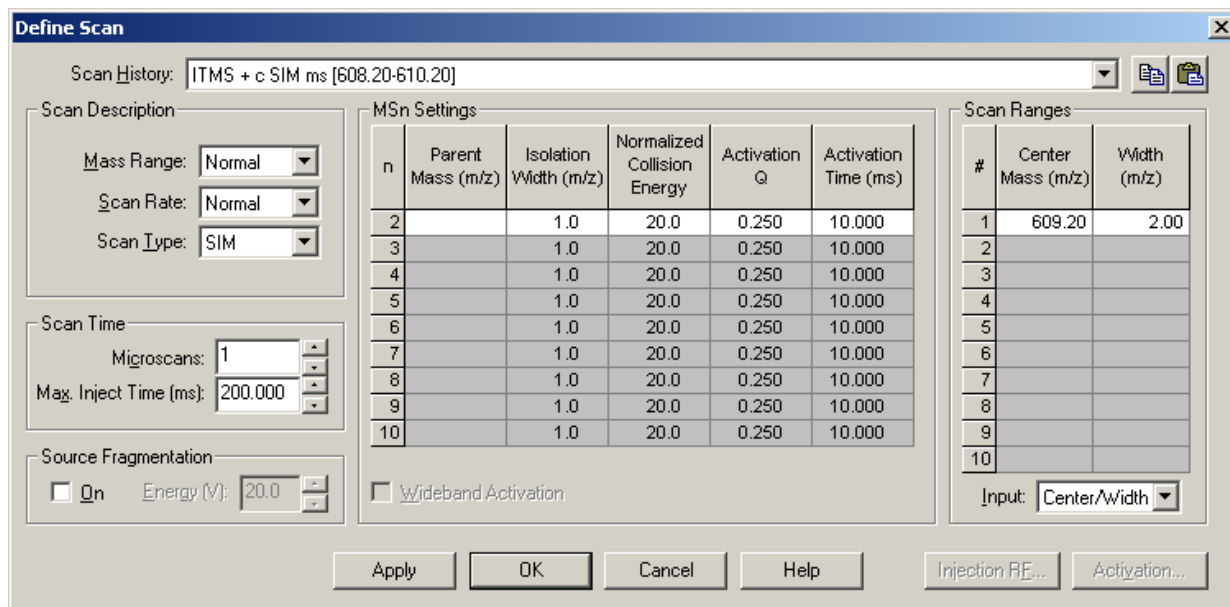

Figure 7-4. Define Scan dialog box, showing typical settings for APCI/MS operation
- a. On the Control/Scan Mode toolbar, click on the Define Scan button to open the Define Scan dialog box. Figure 7-4 (If your dialog box appears different from the one shown in the figure, it is probably because the advanced settings are not displayed. You can turn on the advanced settings as follows: In Tune Plus, choose **ScanMode**, and then click on *Advanced Scan Features* to select the option.)
- k. Ensure that the settings in your Define Scan dialog box are the same as those shown in Figure 7-4.